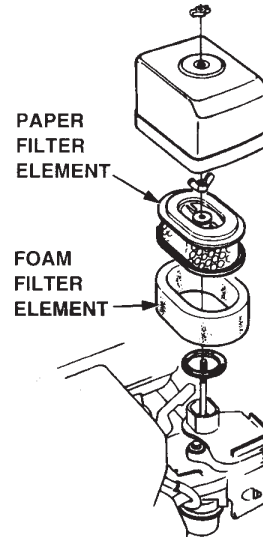

Figure 18. Air Filter
1. To clean or replace air filter loosen the wing nut on the air filter housing (Figure 18), remove the cover and take out air filter cartridge. If only cleaning of the air filter is desired blow through the air filter cartridge from the inside, moving a jet of dry compressed air up and down until all dust is removed.